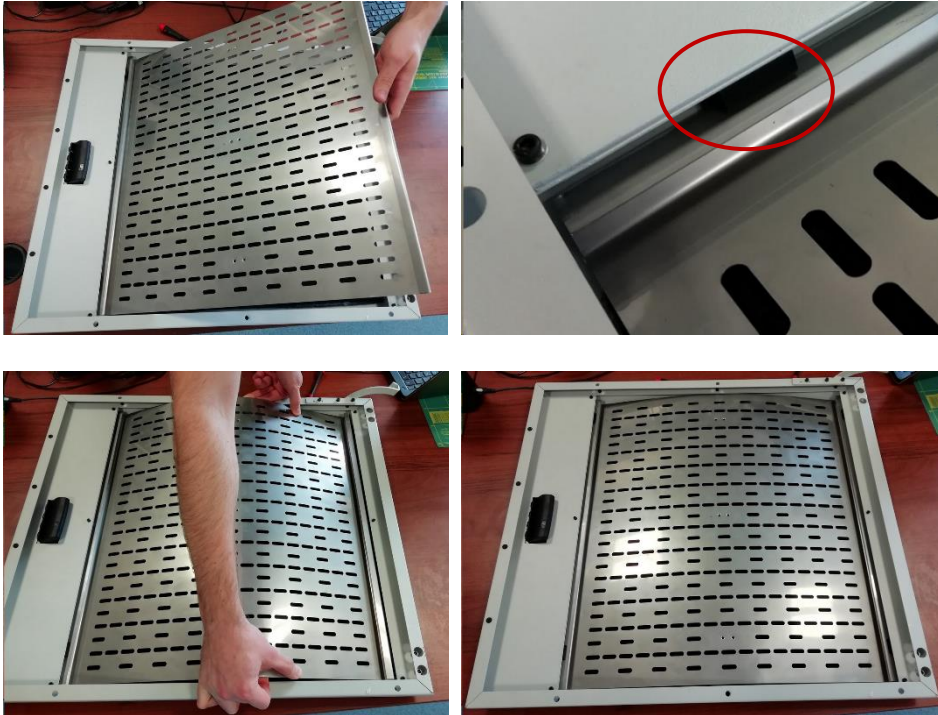

Fig. 16 Inserting the panel into the top cover
9. Slide the panel under two black spacers on one side of the printer and then bend the plate and slide it under two black spacers on the other side (Fig. 16).